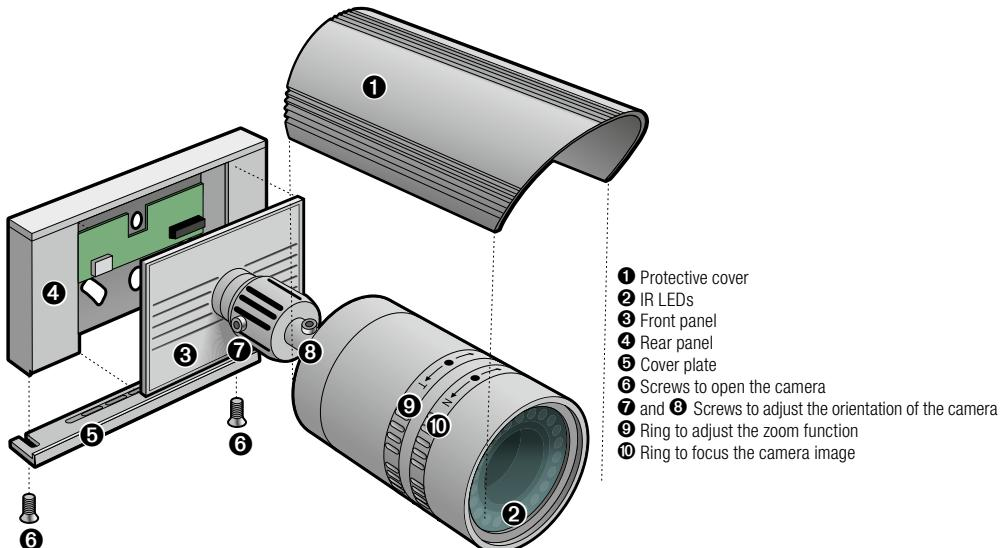

fig.1
- 1 Loosen the screw (fig.1⑦) and tilt the camera in the appropriate direction.
- 2 Loosen the screw (fig.1⑧) and turn the camera. Ensure that the image remains horizontal.
- 3 Turn the ring (fig.1⑨) to zoom in or out.
- 4 Turn the ring (fig.1⑩) to focus the image.